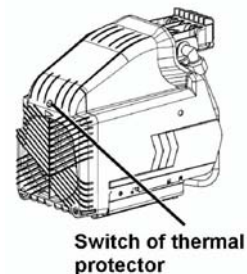

Fig.8
- (2) If the extension cord does not conform to the specifications given on page 6 replace with an extension cord such as that shown on page 6. If the capacity of the power supply is insufficient, increase the power supply capacity to remove the cause of a flow of excessive current (over-current).
- (3) Wait approximately 5 minutes, then press the reset switch of the thermal protector (Fig. 8).
- (4) Start up. If the motor still stops during operation, please contact the service center.